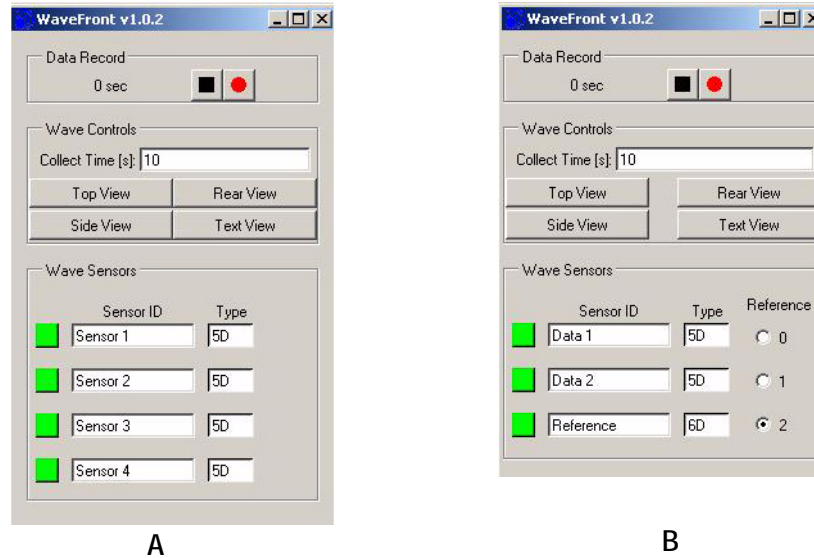

Figure 3-6 Control Panel
- **Preset Views** - Set the view as required with the buttons on the Control Panel to Top, Rear or Side View. Refer to Figure 3-6.
Use the Control Panel (Figure 3-6) to set the options detailed below. Example A shows the control panel with 5D sensors only. Example B shows the control panel with both 5D and 6D sensors.
Note The control panel layout reflects whether or not 6D sensors are used in the experiment. Figure 3-6 (A) shows the layout when only 5D sensors are used. Figure 3-6 (B) shows the layout when 6D sensors are used. In the latter case an additional column provides the option to select a 6D sensor to use as a reference for all other measurements.